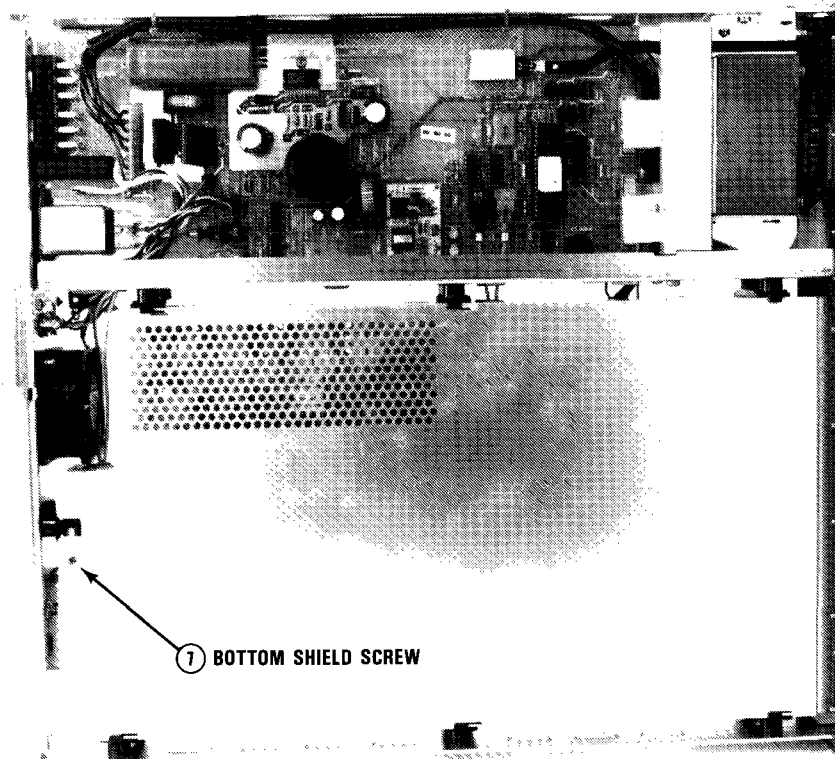

Figure C-5 HP 3458 Inside Bottom View
1. Refer to Figure C-5. Use the #TX10 Torx driver to remove the bottom shield screw. Then remove the shield. Pull the shield toward the rear of the instrument until the shield retainers line up with the slots in the shield. Lift the shield off.
3. Refer to Figure C-5. Replace the bottom shield. Line up the slots on the shield with the shield retainers. Then push the shield toward the front of the instrument until the shield screw hole lines up with the screw hole in the chassis. Use the #TX10 Torx driver to reinstall the shield screw.